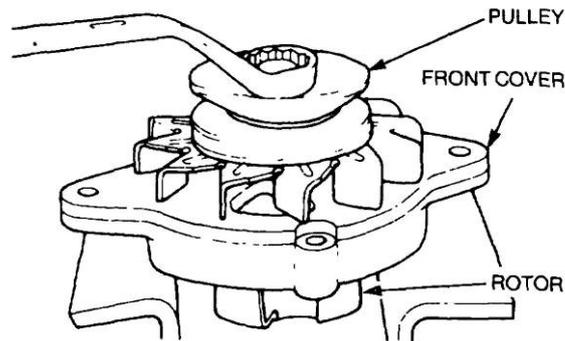

Figure 312 Removal of the Front Pulley and Cover
- e. Carefully clamp the rotor in a vice fitted with soft-jaw protectors, remove the nut retaining the pulley (Figure 312), and remove the washer, pulley and cover from the rotor.